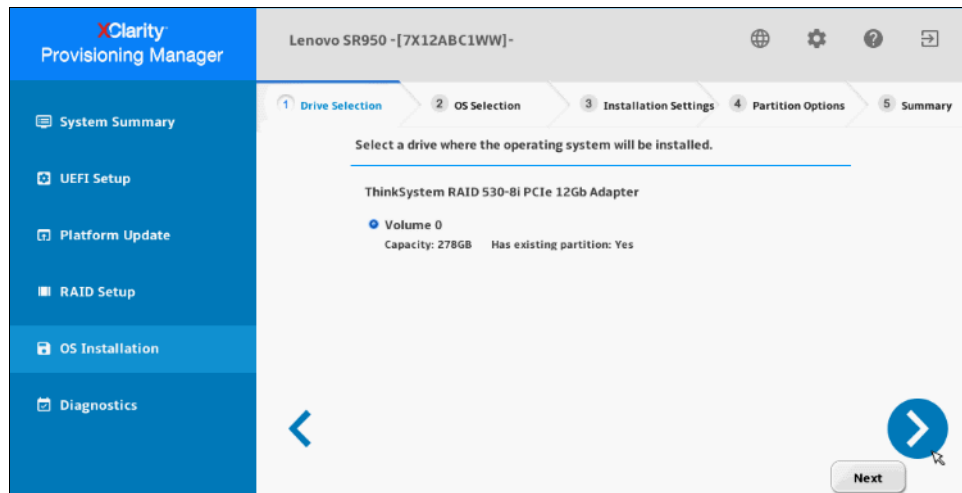

Figure 6-61 Select the drive where the OS will be installed
6. Select the Drive where the OS will be installed on as shown in Figure 6-61 and click **Next**.